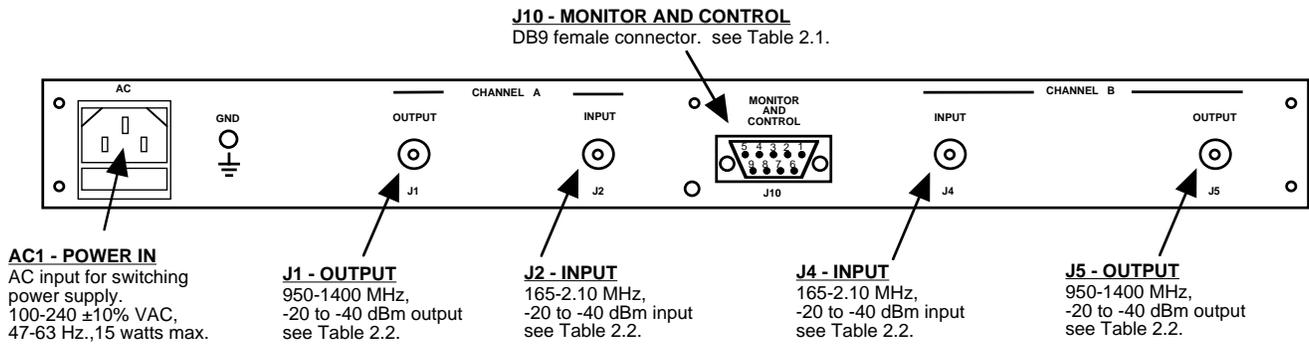

FIGURE 2.1 2083-2114-01 Rear Panel I/O's
Figure 2.1 shows the input and output connectors on the rear panel.
1. Connect a -20 dBm to -40 dBm signal to IN, J4 (Figure 2.1)